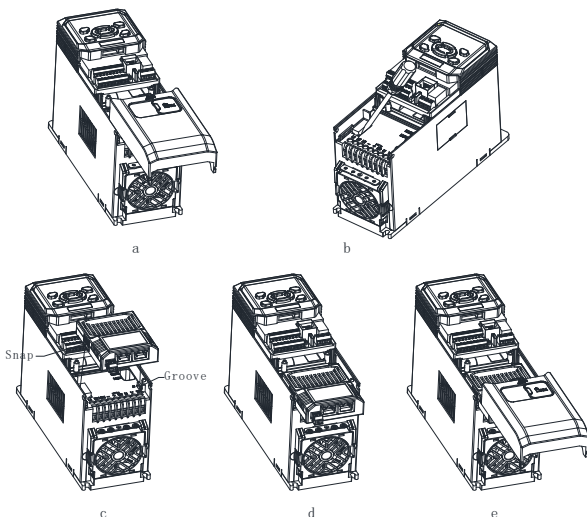

Fig. 6 Modbus TCP option installation steps
- (1) When the drive is powered off, press the granulated area on the middle-upper part of the lower cover, slide it down with a certain amount of force to remove the lower cover, as shown in Fig. 6-a.
- (2) Use a straight screwdriver to pry open the dust-proof cap, as shown in Fig. 6-b.
- (3) Install the Modbus TCP option: hold the expansion box (a bus card inside) upwards (indicators up), align the expansion box with the electrical bus interface in the installation position 2, and press down horizontally to buckle the spring snap of the expansion box into the groove at the lower part of the drive, as shown in Fig. 6-c and Fig. 6-d.
- (4) The bus option is successfully installed, as shown in Fig. 6-e.